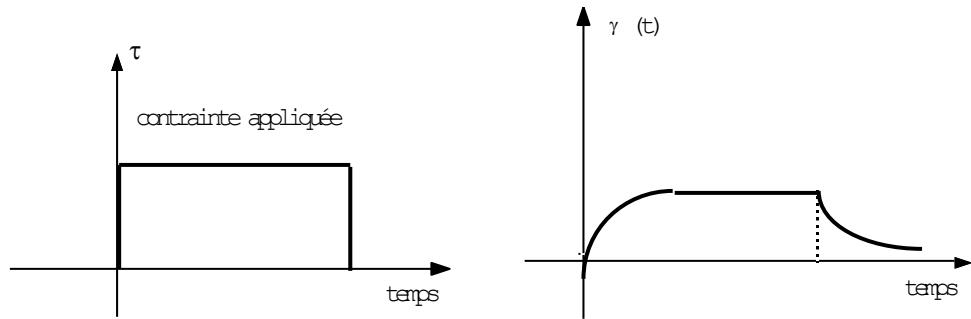

Fig. 2 : Dynamic viscosity
This is the law of shear stress, where G is the shear modulus, and depends on the studied material. However, if we pay closer attention to the deformation, we notice that angular deformation γ is a function of time (Fig. 2). The value γ established in equation (2) only represents the asymptotic value of the deformation. Instead, the full equation becomes: